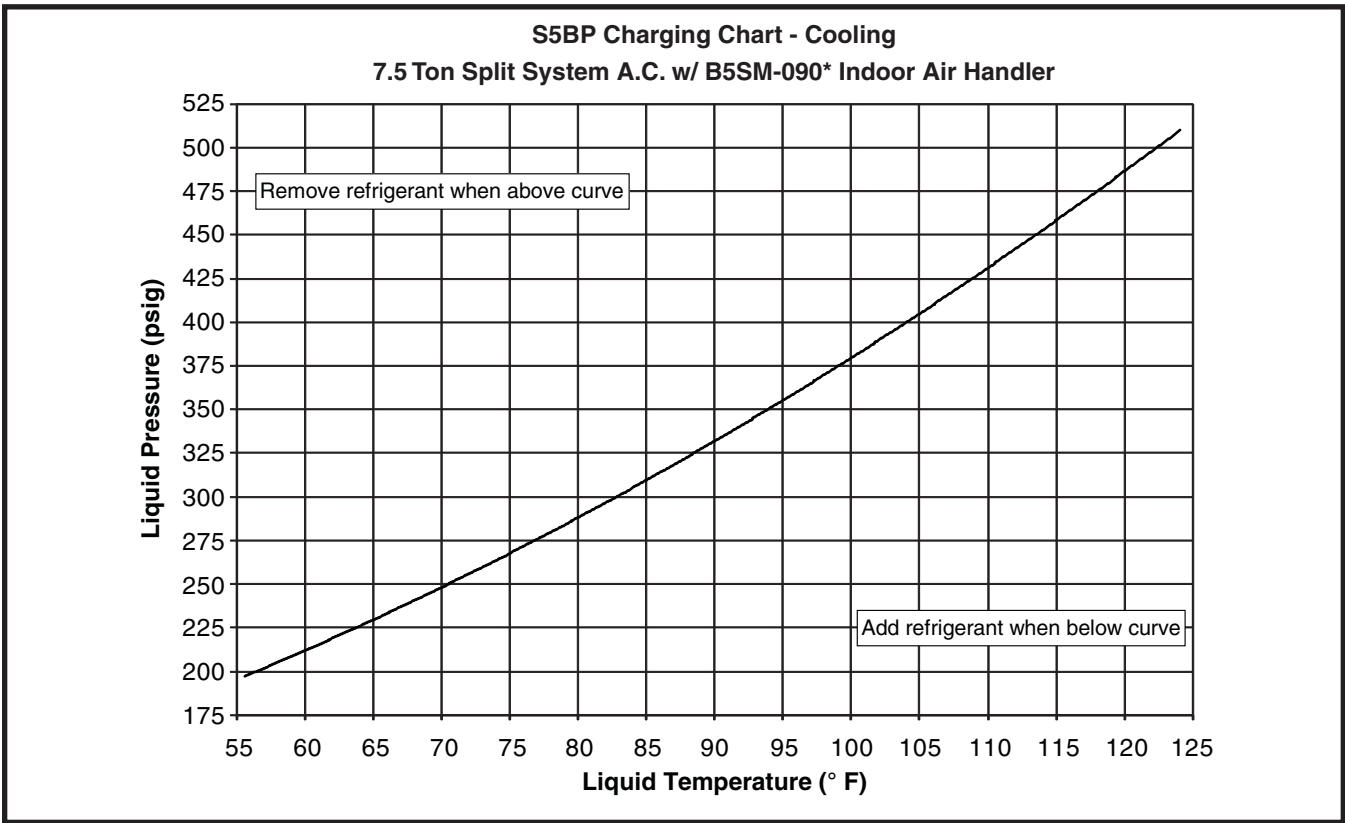

Figure 8. Charging Chart for 7.5 Ton Units
- Charging charts are valid for a variety of indoor return air conditions and are most influenced by the outdoor ambient temperature, outdoor fan operation, and the unit operating voltage. Before using these charts, ensure the unit is in a stable operating mode. As shown in the charging charts (Figures 8 or 9, page 17), the ideal system sub-cooling can vary over the range of operation. Reference the charts to determine the ideal amount of sub-cooling for a given liquid pressure. Units charged to other values will not perform at the rated unit efficiency (EER) or rated Coefficient of Performance (COP) in heating mode.